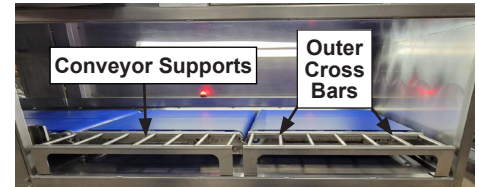

Figure 7. Conveyor Supports
3. Locate the conveyor supports (Figure 7). Grab the outer cross bars, lift up and tilt the support towards you to detach it from the conveyor. Remove and set aside.